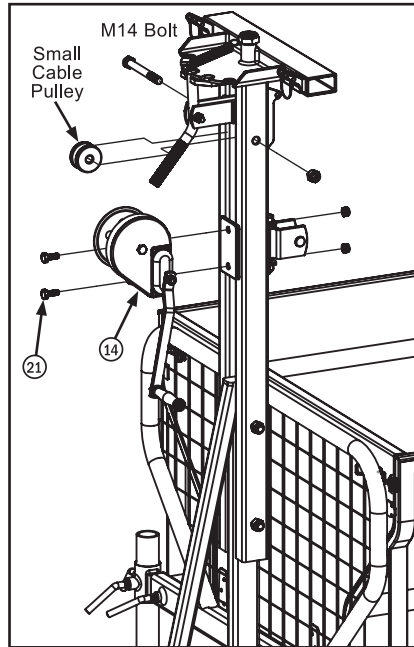
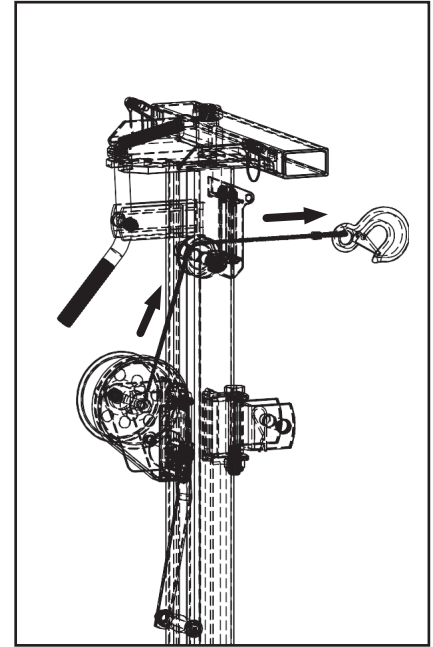

Fig. 21
Fig. 22
Step 19: Install the Winch with Cable. Use the two M8x20 Bolts and Nuts (21) and install the Winch with Cable (14) as shown in Fig. 21. Remove the M14 Bolt and Nut that is holding the Small Cable Pulley in place. Pull the winch cable through the two upright tubes and feed it between the cable rollers, then re-install the Small Cable Pulley underneath the cable (Fig. 22).